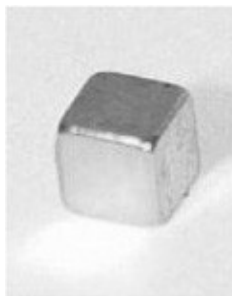

Figure 106-1 *Neodymium magnet cube.*
- cube-shaped neodymium magnet (see Figure 106-1)